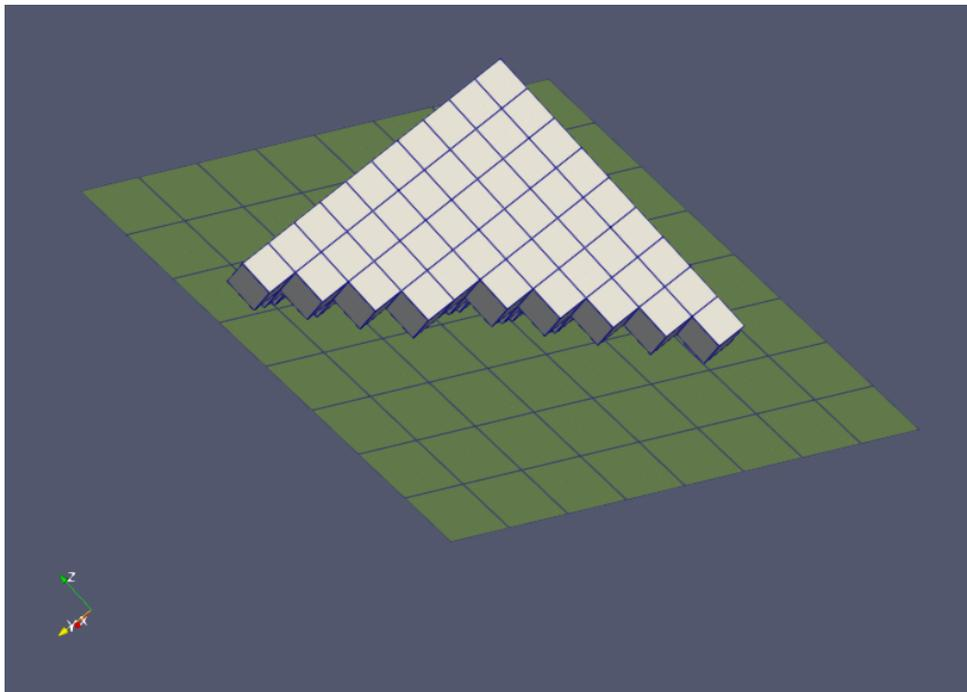

Fig. 2.52: Invert the orientation of the clipping plane
- The **Invert output** flips the orientation of the clipping plane (but not the effect of the **Keep cells along boundary** option): Fig. 2.52